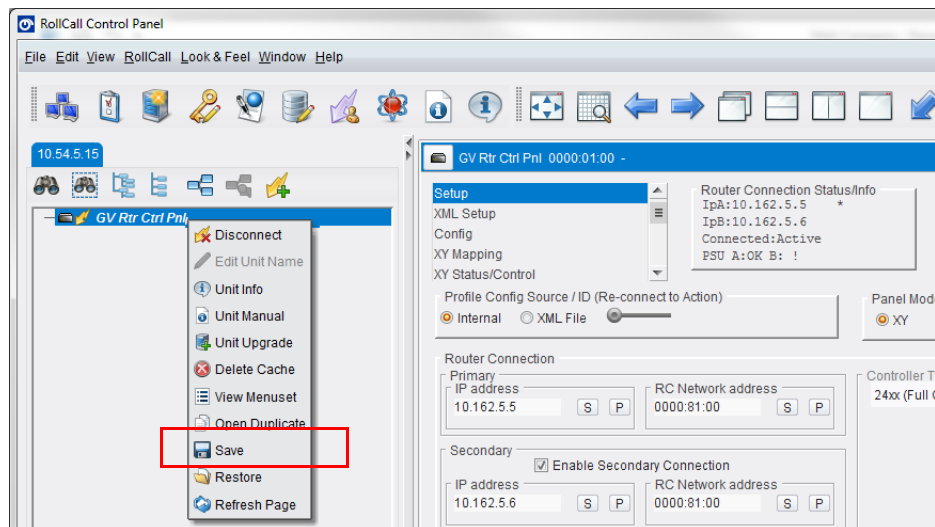

Fig. 6-17: Right-Click Pop-up Menu - Save
- 2 Right-click on the router control panel's unit name and click **Save** in the pop-up menu. See Figure 6-17.